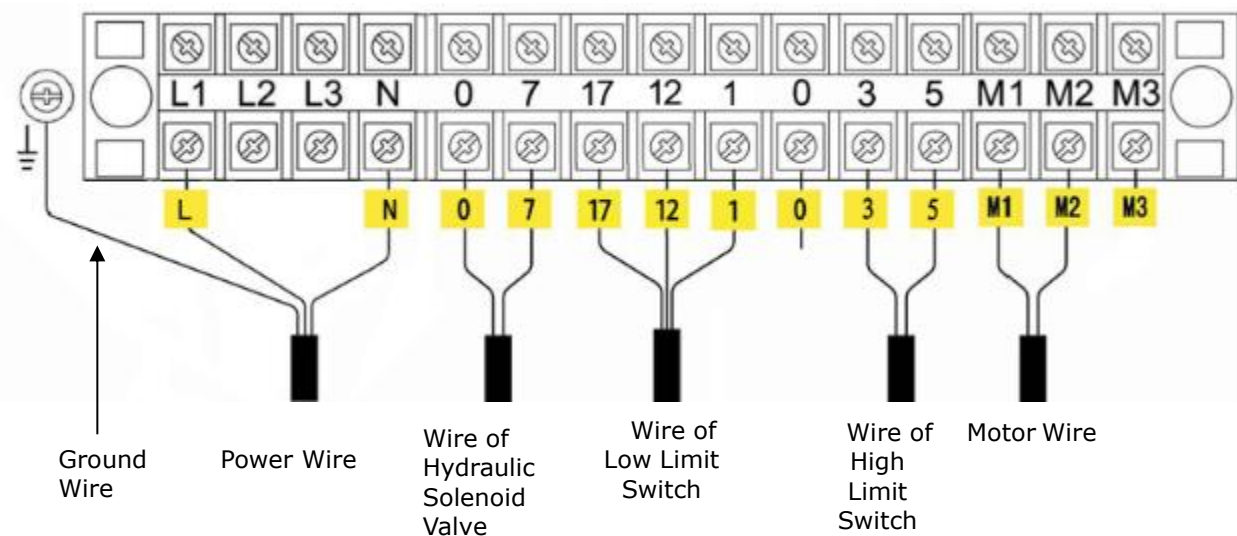

Fig. 18
2.1 Connect the power wire and limit switch wire according to the Wiring diagram (See Fig. 18)